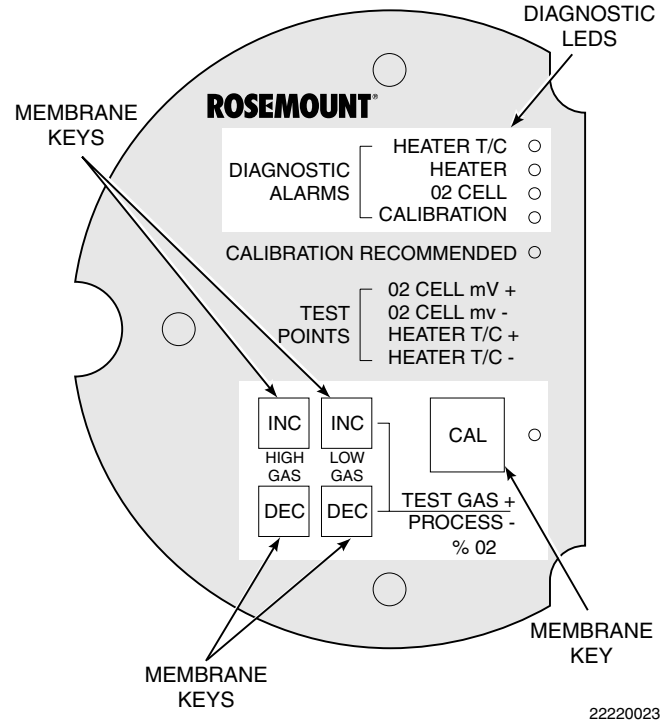

Figure 3-4. Calibration Keys
- d. **Keypad.** The five membrane keys on the membrane keypad are only used during calibration to adjust the high and low gas and to initiate the calibration sequence (Figure 3-4).